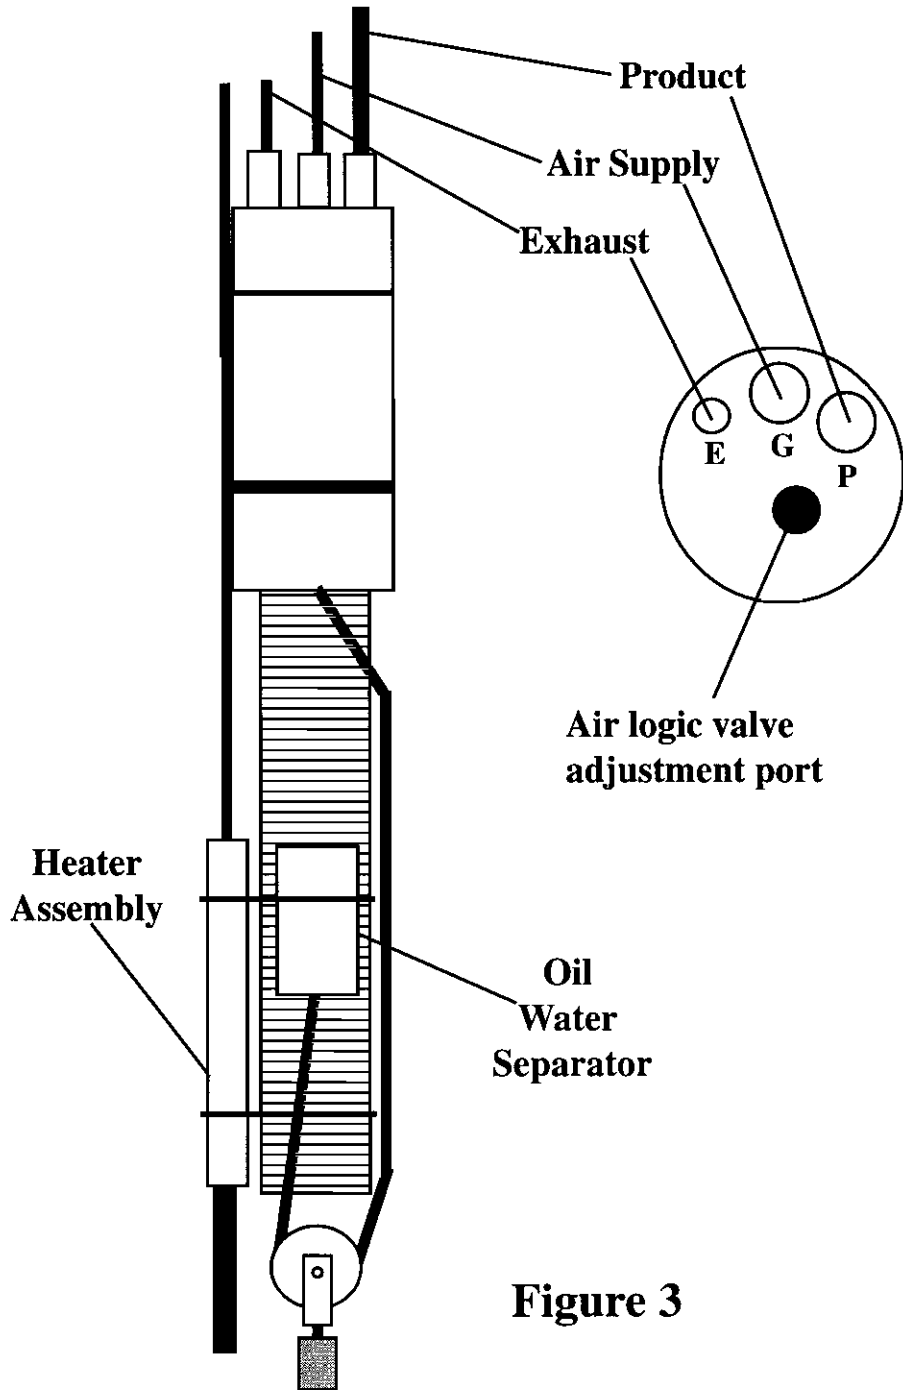
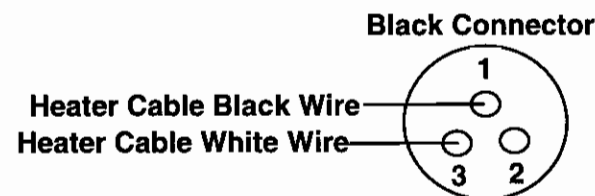

Figure 3
Figure 5
STEP 6. Position the skimmer and well cap on the ground near the well. Cut a length of 3/8"OD air supply tubing to cover the distance from the top of the well down to the product/water interface plus 5 feet. Install 3/8"OD air supply tubing through the well cap tube fitting labeled "G" (Figure 3). Slide enough tubing through the well cap to position the center of skimmer's slotted area at the product/water interface and attach the end of the tubing to the top of the skimmer tube fitting labeled "G". Try not to kink the tubing. NOTE, If the product thickness is greater than 2 feet then position the the center of skimmer's slotted area at least 1 feet below top of product.
STEP 7. Cut a length of 1/2"OD tubing same as the air supply line. Install 1/2"OD product tubing through the well cap tube fitting labeled "P" (Figure 3). Slide enough tubing through the well cap and attach the end of the tubing to the top of the skimmer tube fitting labeled "P". Try not to kink the tubing.
STEP 8. Cut another length of 3/8"OD tubing for the air exhaust line equal to the air supply line. Install 3/8"OD air exhaust tubing through the well cap tube fitting labeled "E"(Figure 3) onto the skimmer tube fitting labeled "E".
STEP 9. Install 3/8"OD heater line through the well cap tube fitting labeled "H". Pull enough heater line through the cap to reach the right end of the jobbox. Attach the black and white wires coming out of the heater line onto the black connector per Figure 5. Attach the heater line and connector to the right end of the jobbox. Attach the other end of the heater line to the side of the skimmer slotted area using 2 long tie wraps(Figure 3). Make sure the heater cartridge is located below the bottom of the slotted well screen (Figure 3).